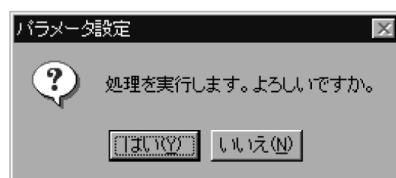

Fig. 9.4.7 Message Box
4. When [開く(O)] [Open] is clicked, the message box as shown in Fig. 9.4.7 appears. Here, click [はい(Y)] [Yes]. The values of the currently set parameters are changed to the values saved in the file.